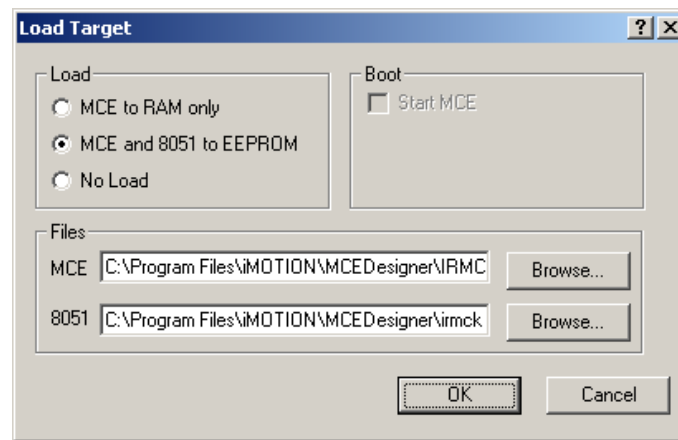

Figure 47—Load MCE and 8051 to EEPROM
4. In the Load box, click the “MCE and 8051 to EEPROM” radio button as shown in Figure 47. The Boot box is not used when loading to EEPROM.